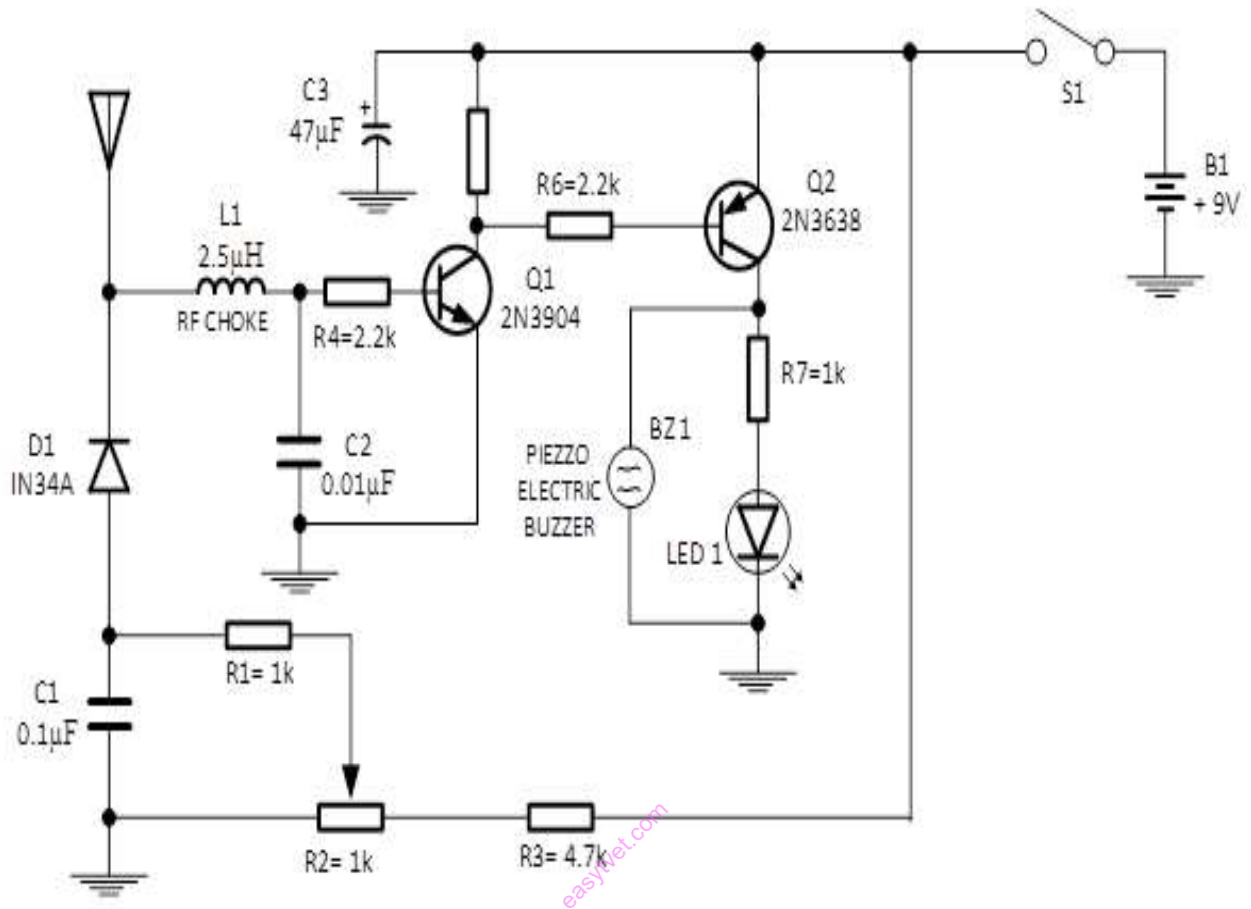

Figure 1.
1. You are provided with a pre-mounted faulty radio frequency detector circuit on a breadboard as shown in figure 1. Referring to figure 1, you are required to perform the following tasks:
TASK 1: Prepare a maintenance checklist of the circuit in figure 1.